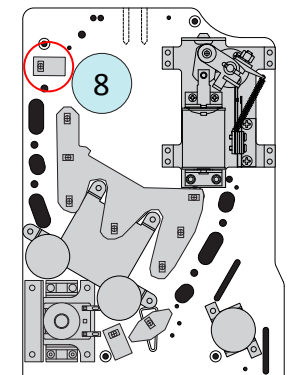

Figure E4. Castle playfield removal, illustration 4.
8) While lifting the castle playfield, reach under its front left corner and unplug the cable from the red connector on single RGB LED board number 30 (circled in figure E4). This cable will remain connected to the main playfield.